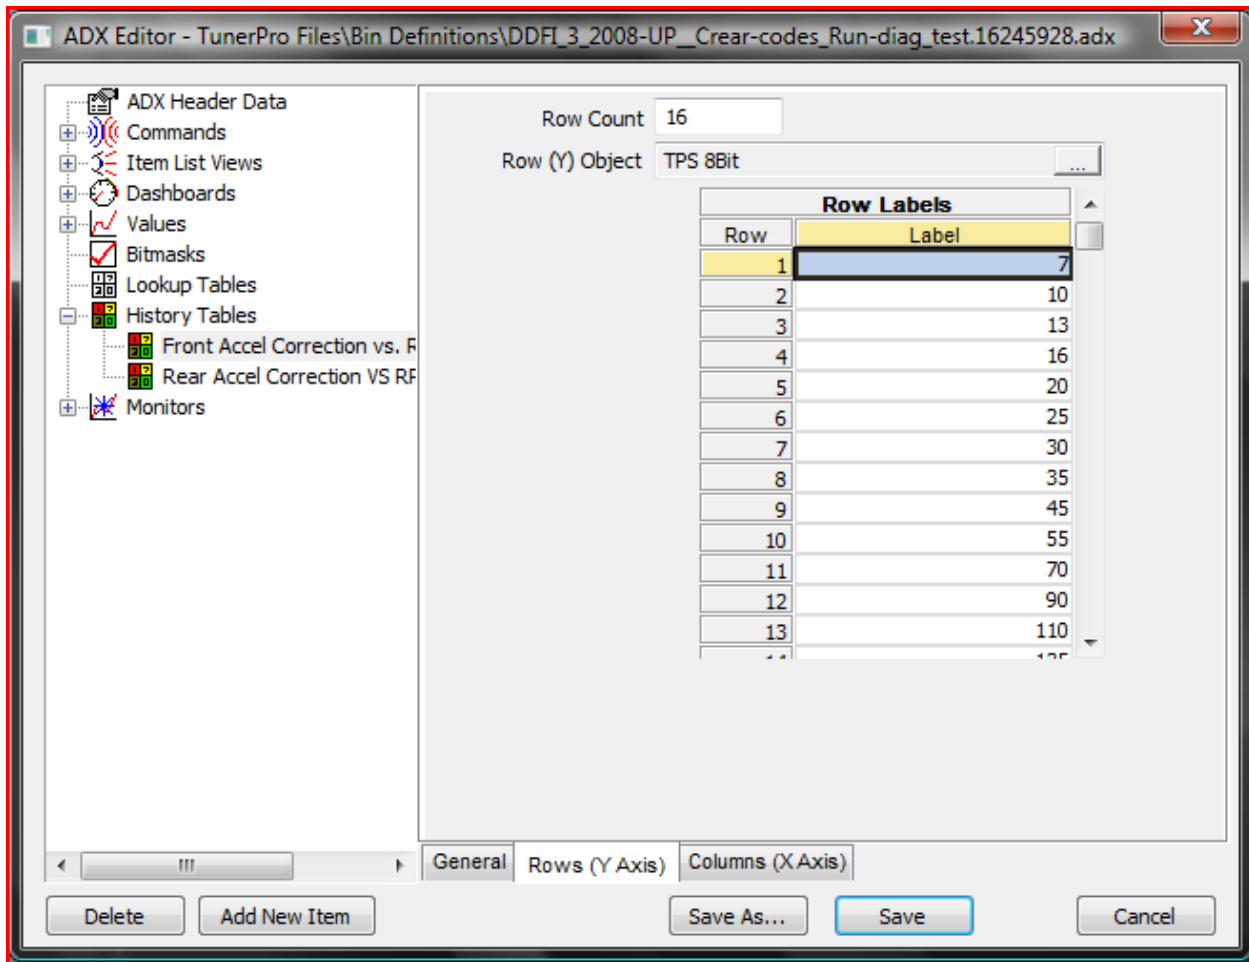

Figure 13: Edit Definition History Tables Y Axis TPS
- a. Select the Rows (Y Axis) tab. The window will change to a screen like Figure 13 below: